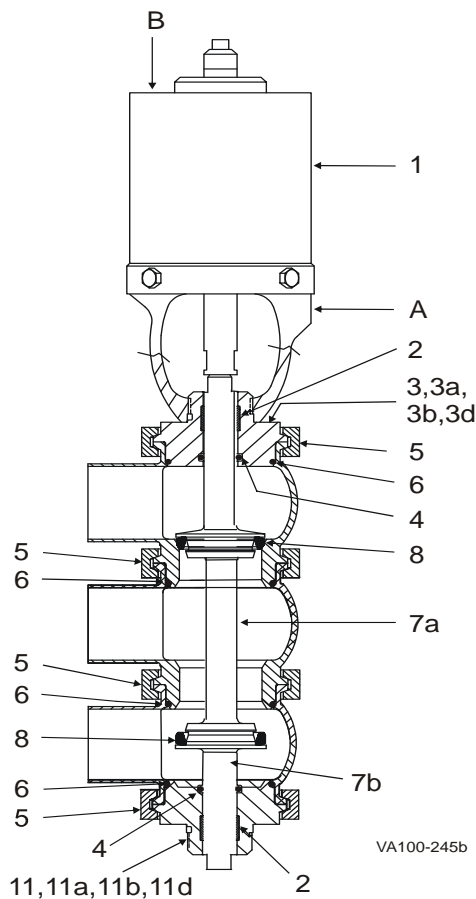

Figure 25: W65/W85 Divert Valve
1. Remove the lower body clamp (Figure 25, item 5) and the lower body.
2. Remove the body o-ring (item 6); replace as needed.
3. If necessary, remove the lower bearing carrier (item 11) from the lower body.
4. Remove the body o-ring (item 6) and stem o-ring (item 4) from the bearing carrier; replace as needed.
5. Inspect and replace the PTFE bearing (item 2) as needed.
6. Using 5/8-inch wrench flats on the stem, unscrew and remove the lower valve stem (Figure 25, item 7b).
8. Replace the lower seat ring (Figure 25, item 8) as needed. See "Seat Replacement" on page 37.
9. Remove the middle body clamp (item 5) and the middle body.
10. Remove the middle body o-ring (item 6); replace as needed.
12. Remove the upper body clamp (item 5) and the upper body from the adapter (item 3).
13. Using 5/8-inch wrench flats on the stem, unscrew and remove the upper valve stem (item 7a).
14. Replace the seat ring (item 8) as needed. See "Seat Replacement" on page 37.
15. Unscrew the adapter (item 3) from the yoke.
16. Remove the body o-ring (item 6) and stem o-ring (item 4) from the adapter; replace as needed.
17. Inspect and replace the PTFE bearing (item 2) as needed.
7. Using 5/8-inch wrench flats on the stem, unscrew and remove the lower valve stem (Figure 25, item 7b).
8. Replace the o-ring (Figure 25, item 9) in the counter bore of the lower stem as needed.
9. Replace the lower seat ring (Figure 25, item 8) as needed. See "Seat Replacement" on page 37.
13. Remove the middle body clamp (item 5) and the middle body.
14. Remove the middle body o-ring (item 6); replace as needed.
15. Remove the upper body clamp (item 5) and the upper body from the adapter (item 3).
16. Using 5/8-inch wrench flats on the stem, unscrew and remove the upper valve stem (item 7a).
17. Replace the seat ring (item 8) as needed. See "Seat Replacement" on page 37.
18. Unscrew the adapter (item 3) from the yoke.
19. Remove the body o-ring (item 6) and stem o-ring (item 4) from the adapter; replace as needed.
1. Screw the adapter (Figure 25, item 3) onto the yoke.
2. Install the upper body o-ring (item 6) onto the adapter.
3. Using 5/8-inch wrench flats on the stem, install the upper valve stem (item 7a).
5. Assemble the upper body to the adapter; secure it with the upper body clamp (item 5).
6. Install the middle body o-ring (item 6) onto the upper body.